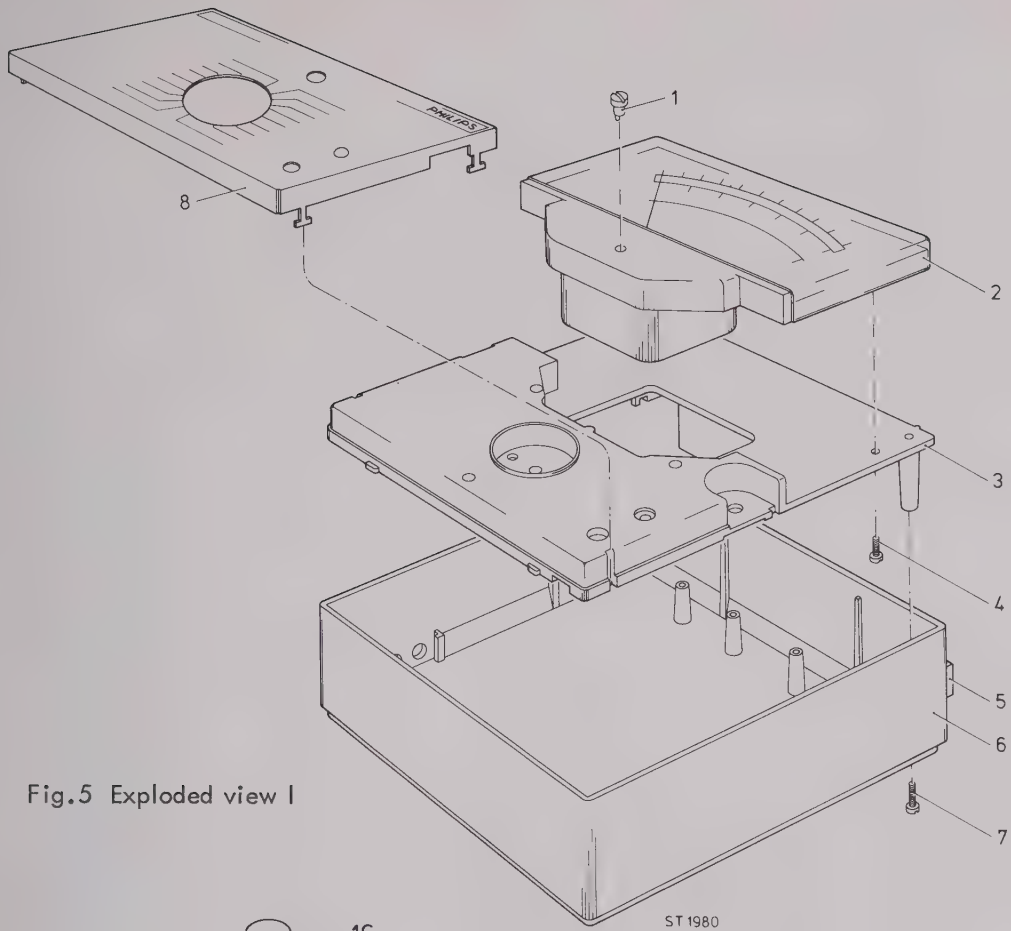

Fig.5 Exploded view I
5.1 Removing housing and textplate (see exploded view I fig. 5, page 9)
5.2 Removing the meter system (see exploded view I fig. 5, page 9)
5.9 To remove other parts of the measuring system. Refer to the exploded views I, II and III respectively fig. 5, 6 and 7.